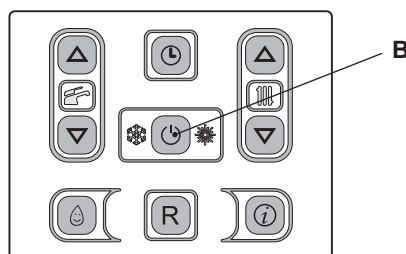

Figure 9.8
- 3 To memorize the setting press the key B (Figure 9.8).